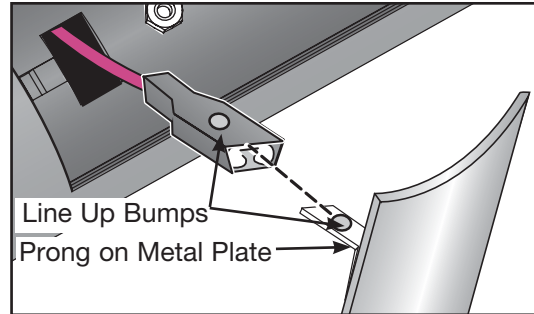

Figure 34
- B. Locate the small bump on the metal contact prong and on the connectors. See Figure 34.
- C. Connect the each cable to a metal prong with the bumps lined up. See Figure 34.